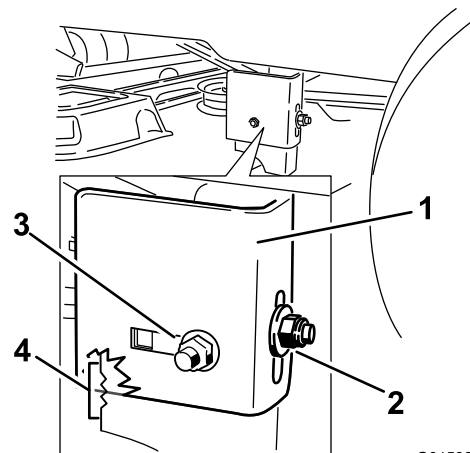

Figure 50
10. Stop the deck at the adjusted position and tighten the rear locking nut on the hanger bracket to hold the new position (Figure 50). Tighten the side locking nut on the hanger bracket.